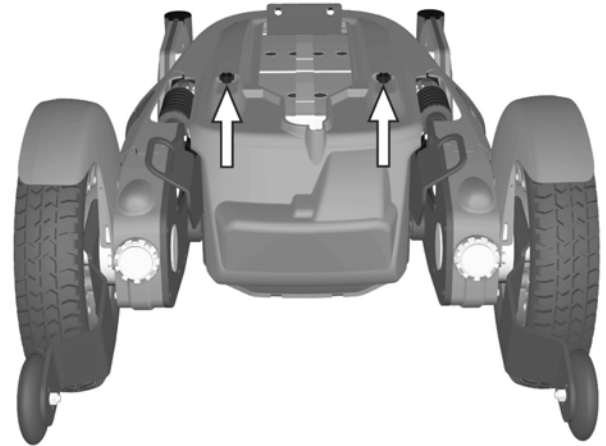

Figure 4. The chassis covers are fitted with two knobs.
3. Remove the two knobs holding the chassis covers. See fig. 4.